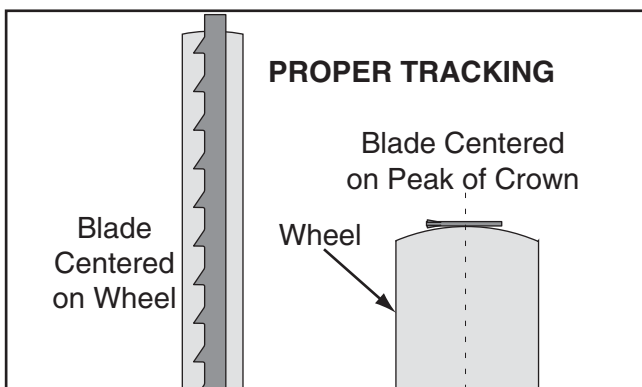

Figure 21. Blade centered on the crown of the wheel.
Bandsaw wheels are either flat or crowned and both shapes track differently. The G0555LX has crowned wheels. As the wheels spin the blade naturally tracks to the highest point of the crown at the center of the wheel (see **Figure 21**).
6. Rotate the upper wheel by hand several times and watch how the blade rides on the wheel crown (see **Figure 21** on **Page 19** for an illustration of this concept).